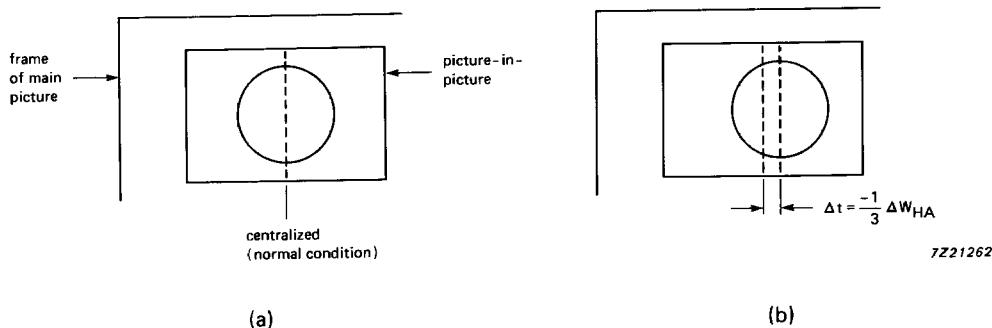

Fig. 4 PIP position; (a) $ACL = 10.9 \text{ MHz}$, (b) $\Delta t = -1/3 \Delta W_{HA}$.
- Pulse width HA (typ. 250 ns): the first sample of a line occurs after approximately 124 periods of ACL (counted on the negative edge of HA). The internal horizontal acquisition off-set value is chosen in such a way that $ACL = 10.9 \text{ MHz}$, when this condition is satisfied the acquired picture is centralized within the PIP. The off-set value is dependent upon the acquisition frequency, 50 Hz or 60 Hz (124 ACL periods of 50 Hz and 108 ACL periods of 60 Hz). If the pulse width of HA increases, the acquired picture will shift to the left within the PIP picture (see Fig. 4).